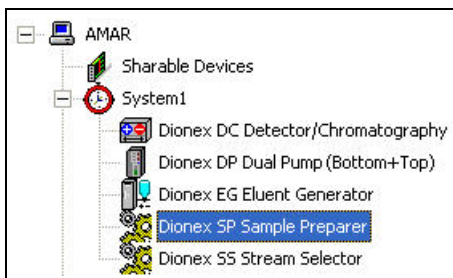

Figure E-10. Chromeleon Server Configuration
2. Double-click the **SP** icon under the system (timebase) name (see Figure E-10).